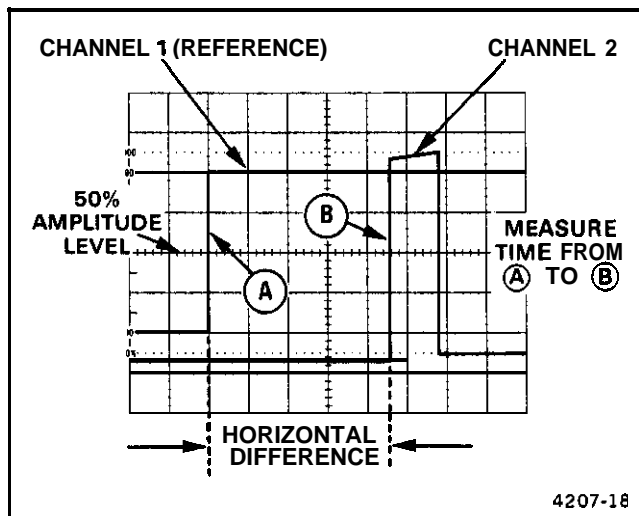

Figure 4-8. Time difference between two time-related pulses
9. Set the A SEC/DIV switch to a sweep speed which provides three or more divisions of horizontal separation between the reference points on the two displays. Center each of the displays vertically (see Figure 4-8).